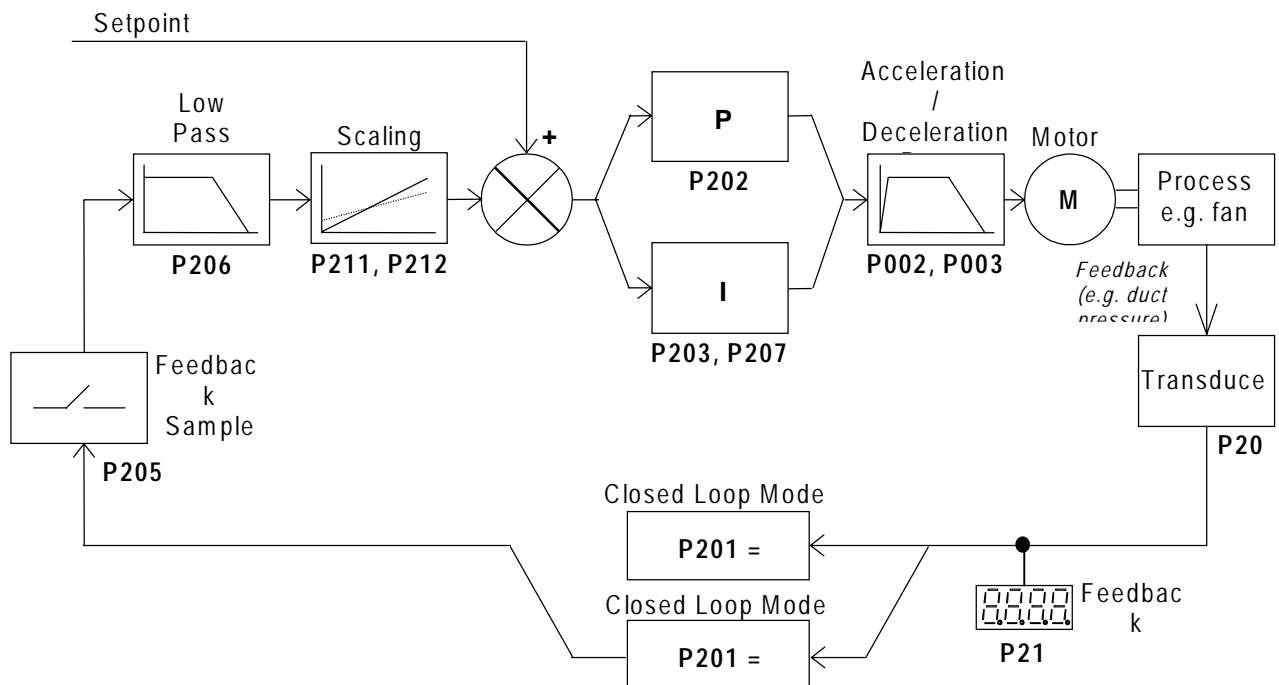

Figure 8: Closed Loop Control
The COMBIMASTER provides a Proportional/Integral (PI) control function for closed loop control (see Figure 8). PI control is ideal for temperature or pressure control, or other applications where the controlled variable changes slowly or where transient errors are not critical. This control loop is **not** suitable for use in systems where fast response times are required.
Closed loop control cannot be used unless P201 is first set to 002. Most of the parameters associated with closed loop control are shown in Figure 8. Other parameters which are also associated with closed loop control are as follows: